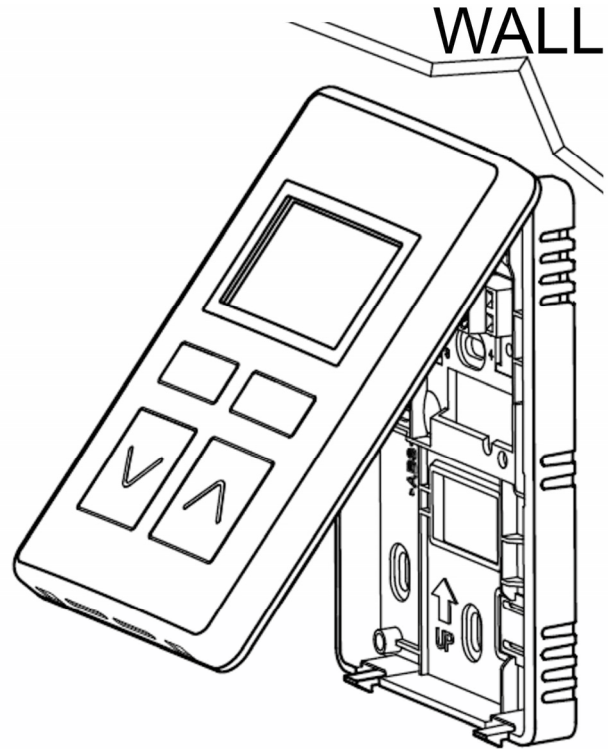

Fig. 7. Removing the wall module from the sub-base
When all wiring is complete, hook the top side, and then snap down like on a hinge (see Fig. 7).
3. Pull the wall module up and away from the sub-base. See Fig. 7.